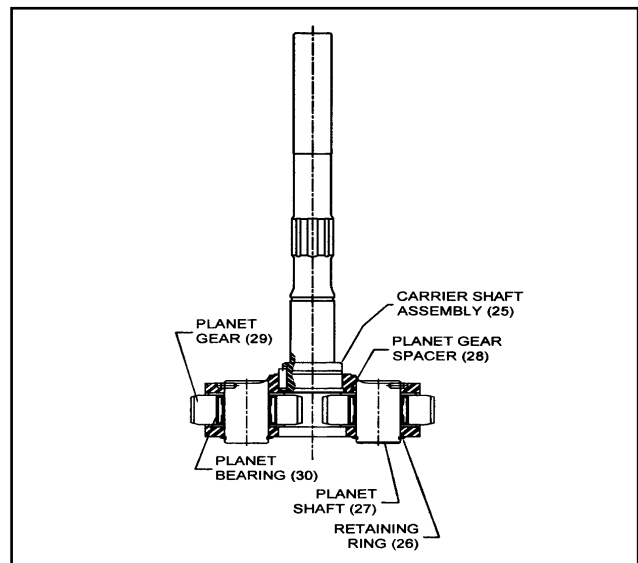

Figure 6. Carrier Shaft Disassembly
Remove snap ring (26) from planet shaft (27) and push shaft through holes in assembly (25). Refer to figure 6.